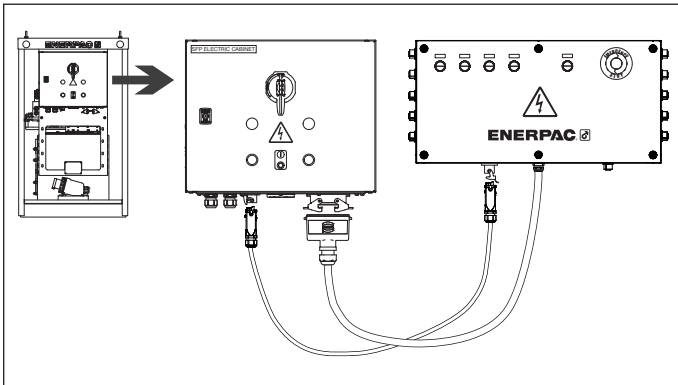

Figure 10, Electric connection of the SFPKSS8 and the SFP electric cabinet
3. Disconnect the pendant from the SFP and connect the SFPKSS4 or SFPKSS8 in the same plug using the CBM cable. Refer to Figure 10 for a connection scheme.